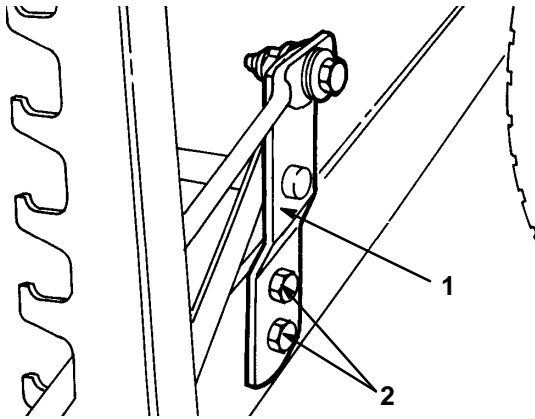

Figure 37
5. If blade tip height is not within 1/8 inch (3 mm), level cutting unit by loosening height-of-cut support bracket capscrews and raising or lowering the bracket (Fig. 37).